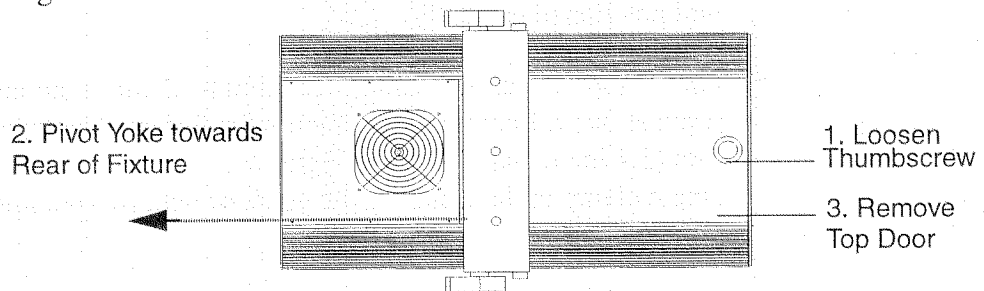
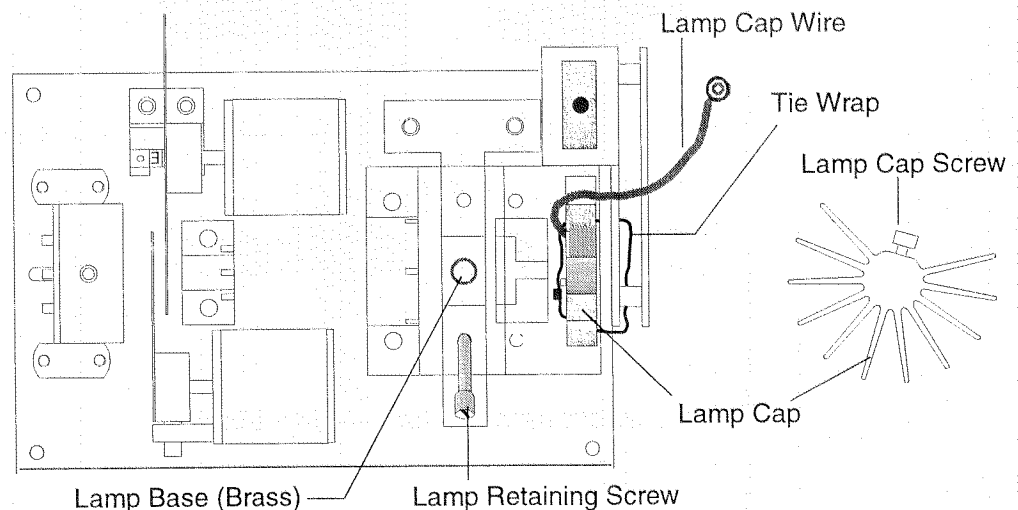

Figure 2.10. *emulator* Fixture — Top View
Figure 2.11. Inside the *emulator* Fixture
1. Loosen the thumbscrew on the top door of the fixture. Refer to Figure 2.10. If you have already installed the yoke, you may need to push it back (down) toward the rear of the fixture to provide clearance. Then, remove the top door. You now have access to the *lamp base* and *lamp retaining screw*. Refer to Figure 2.11.
2. Locate the *lamp base*, *lamp retaining screw*, and *lamp cap*. Refer to Figure 2.11.
3. Carefully cut the *plastic tie-wrap* with wire cutters. The tie-wrap secures the *lamp cap* during shipping. Refer to Figure 2.11.